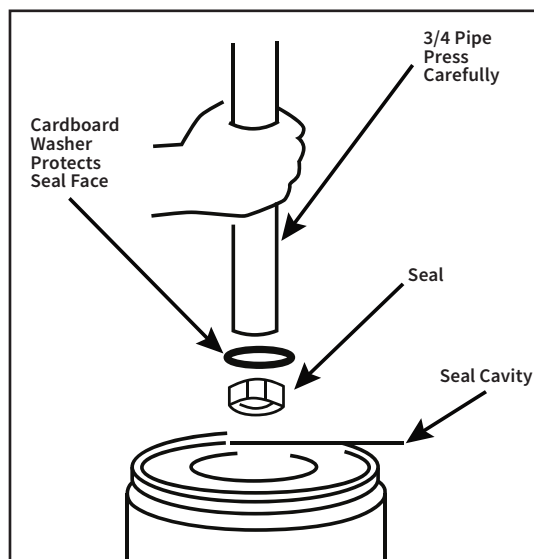

FIGURE 5c
9. If seal does not seal properly after the cavity was cleaned, place a cardboard washer over polished seal face and carefully press into place using a piece of standard clean 3/4" pipe as a press. (Fig. 5c)